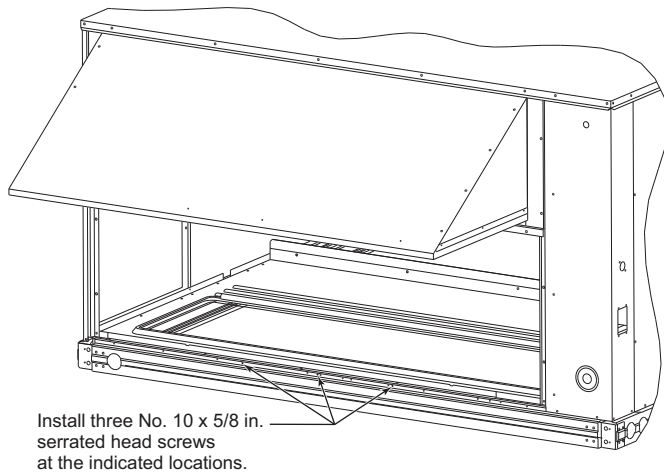

Fig. 11 — Install Screws to Locate Power Exhaust Fan Assembly for Vertical Return Air Applications
3. Install three No. 10 x 5/8 in. serrated head screws (AL48AM217) in the three locations shown in Fig. 11. The screws should be installed very loose.